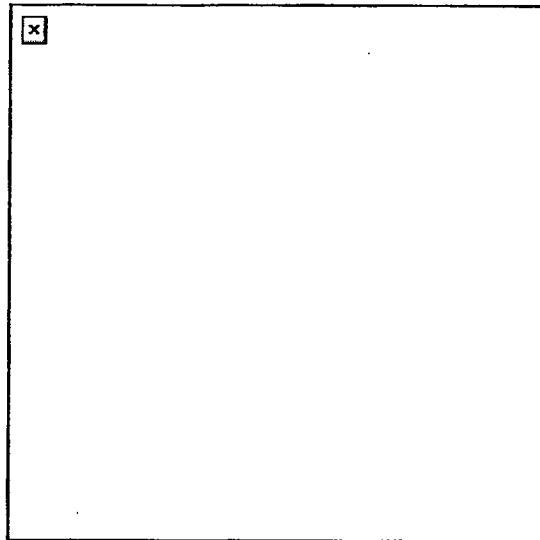

Figure 13. Removal of the charger assembly.
- (1) Grasp the two control grips with both hands and lift up slightly to disengage the back plate from the locking lugs in the receiver.
- (2) Pull the round positioning block toward the muzzle end of gun.
- j. Remove the charger assemblies (both sides) (Figure 13).